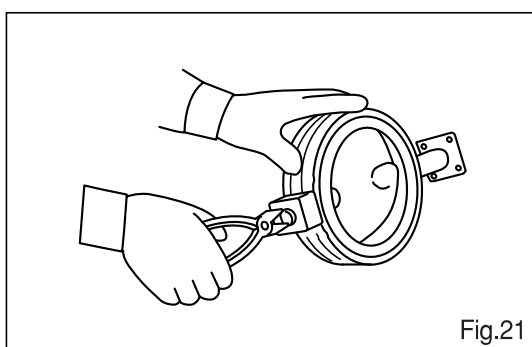
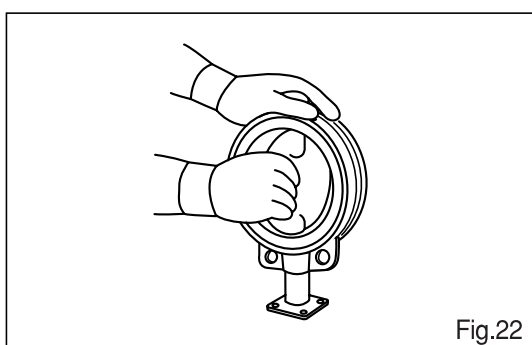

Fig.21
Fig.22
4. Remove the lower shaft : Use the hexagonal bolt⑬ which fixed the cover. Screw the hexagonal bolt into the thread of the lower shaft⑤, then pull the hexagonal bolt⑬, so the lower shaft⑤ comes out with the hexagonal bolt⑬. (Fig.21)
5. Remove the upper shaft : Fix the head of the upper shaft④ by a vise. Then, draw the valve body, so the upper shaft comes out.
6. Remove the disc : First, lay soft-cushion underneath to protect the valve. Set the disc in almost fully open position. Push out the disc with it twisting. (Fig.22)